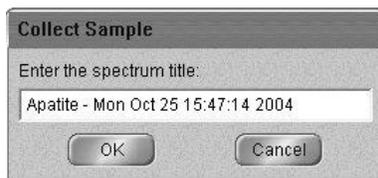

Figure 15: Spectrum Title window.
- 6.c. At the title prompt (see Figure 15 below), enter the sample's chemical name or formula in front of the default title (the current date and time). This way, identical samples run on different days will be distinguishable when saved.